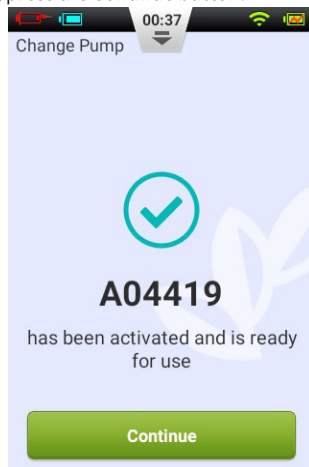

Figure 74
to the new pump. After the new pump has been activated, the PDA will show a confirmation screen (Figure 74).
- 3 From the confirmation screen (Figure 74), press the Continue button.